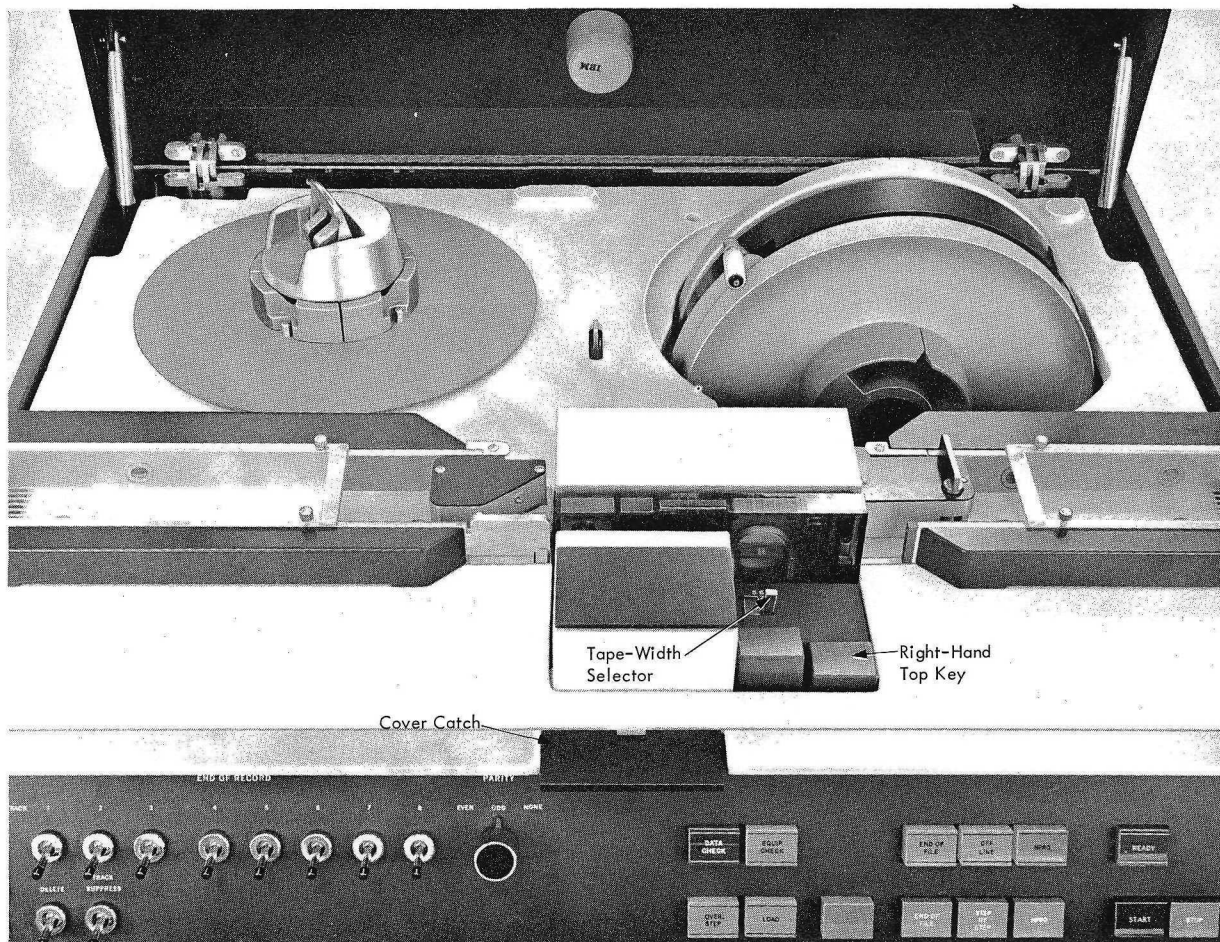

Figure 12. Step 1: Preparing the 2671 for Loading [01778A]
- a. Depress the cover catch (Figure 12).